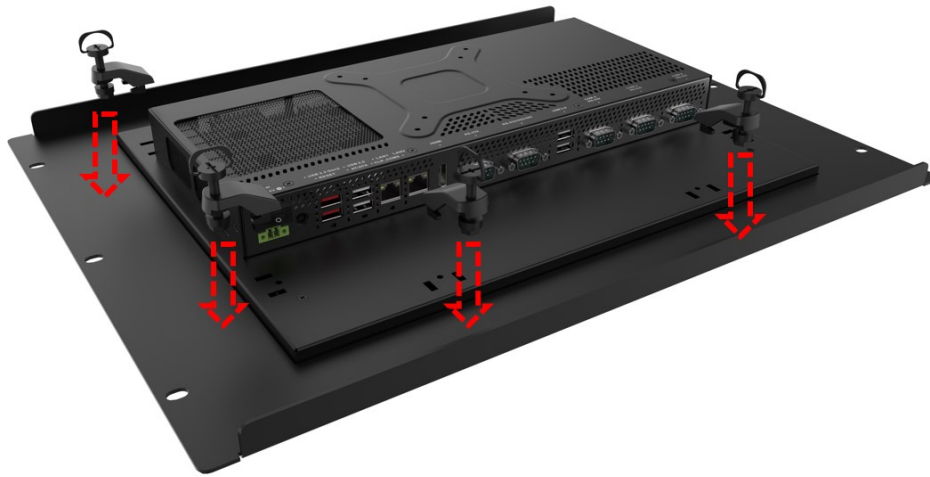

Figure 3-24: Installation Panel Mount Kit
Step 4: Insert the panel mount kit into the prefabricated holes along the rear edge of the PPC2-Cxxx-EHL series (**Figure 3-24**). The required number of mounting clamps may vary by models.